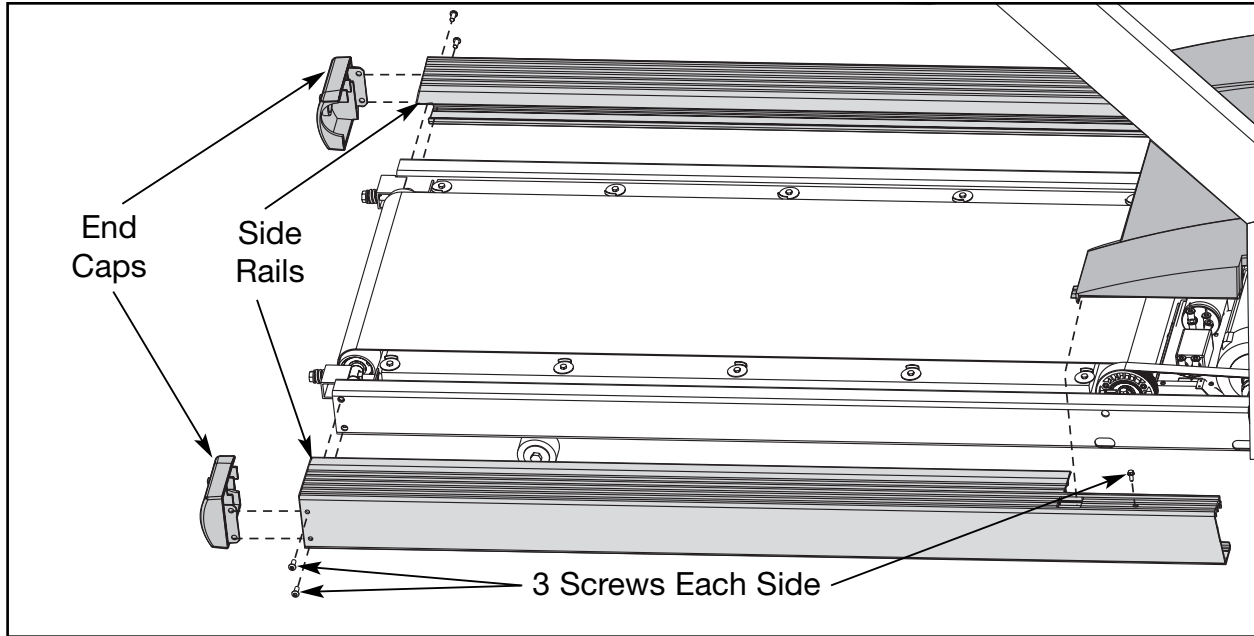

Figure 2
- Using a flat head screw driver, remove the hex head screw on the top of each side rail toward the front of the treadmill. See Figure 2.
- Use a 3/16" Allen wrench to remove the two button head screws that fasten each side rail to the frame. See Figure 2. Set the end caps aside.